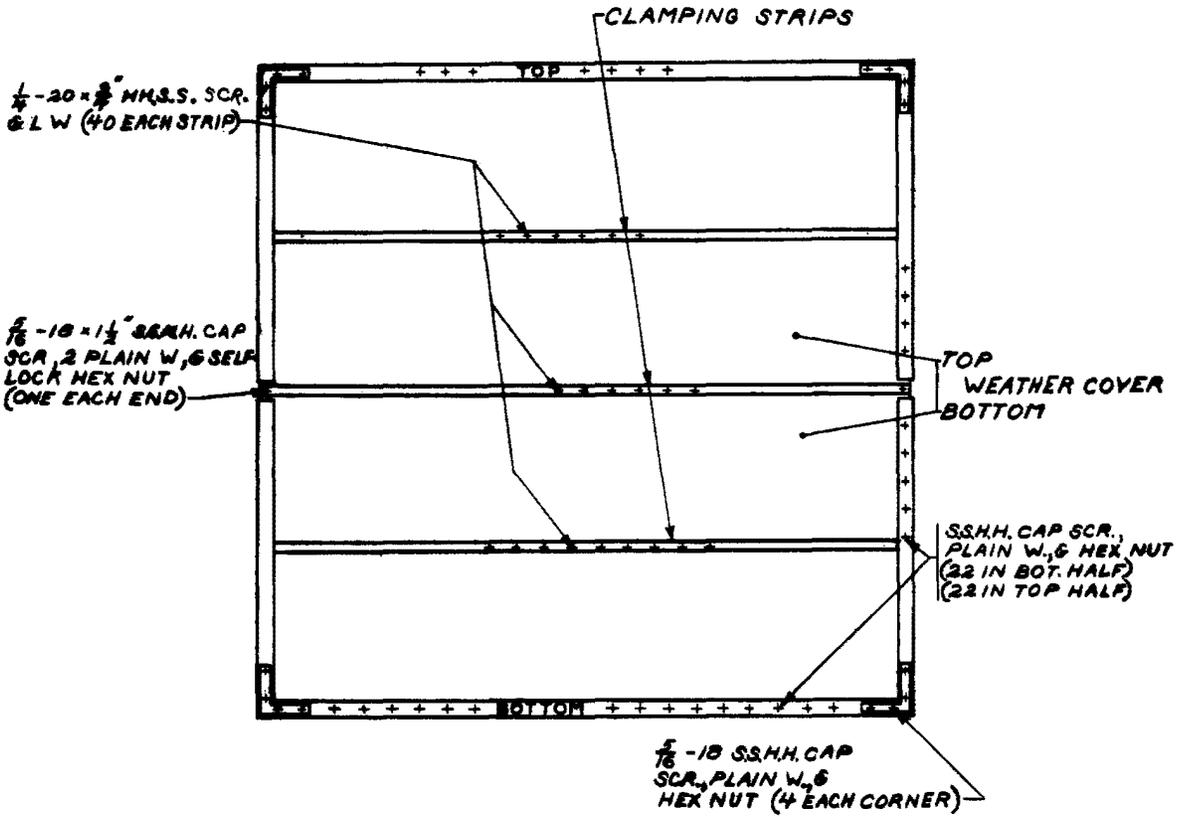

Fig. 1 - Weather Cover Assembly
**2.02** Remove, progressively, the 1/4 -20 by 3/4-inch HH self-tapping screws (type F Parker-Kalon or equivalent), which are equipped with lock washers, from the clamping strip over the center of the top cover; then remove the clamping strip (see Fig. 1).
**2.05** Remove the top half of the weather cover by removing the stainless steel HH cap screws, which are equipped with plain washers and self-locking nuts, from along the top and two sides of this section of the cover (see Fig. 1).